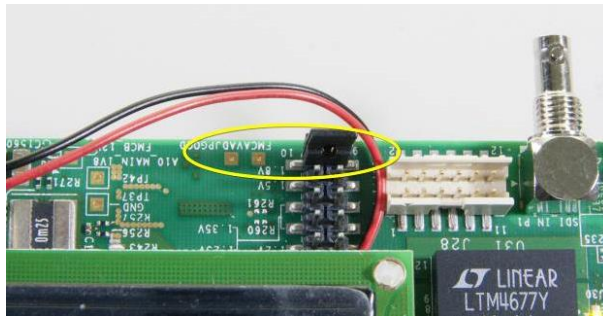

Figure 4-6 Short J42.9 and J42.10
3. Make sure the FMC_A VADJ is set to 1.8V by shorting J42.9 and J42.10 as shown in **Figure 4-6**.